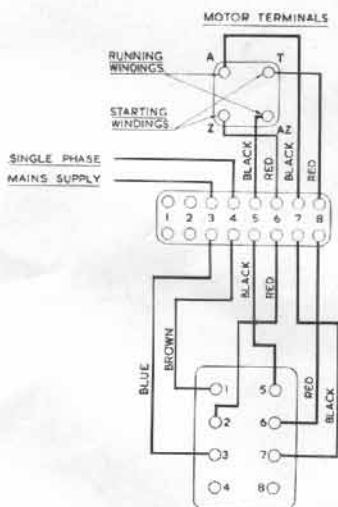

Fig. 25. Single Phase.
MYFORD cabinet stands are fitted with a reversing switch which is already connected to a terminal block at the back of the stand. See Figs. 21 and 22. The Lathe motor and mains supply should be connected to the appropriate terminals as indicated in Figs. 25 & 26. NOTE THE EARTHING TERMINAL TO THE LEFT OF THE TERMINAL BLOCK.
The connections for Drum Type reversing switches are shown in Figs. 25 & 26. When single phase motors are supplied with Bench Lathes, but without switchgear, the terminals are 'bridged' at the MYFORD works for plain "ON-OFF" starting. These bridge pieces must be removed before a reversing switch can be used. When a single phase motor is to be connected to a reversing switch **always check that there are no links** connecting the starting to the running windings.
N.B. Fig. 25 shows terminal markings for Brook Crompton Parkinson motors. The table above shows alternative terminal markings—equally applicable when connecting other motors to drum type switches.